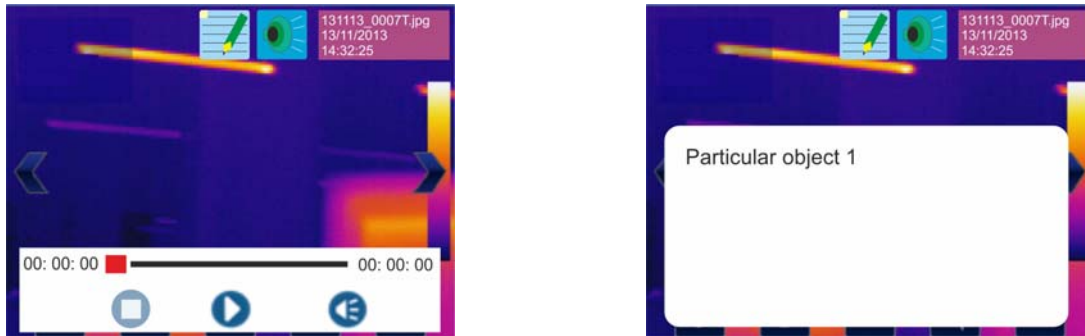

Fig. 66: Display of voice and text annotation
5. Touch the icon “”. The following screen appears on the display (see Fig. 66 – Left side).